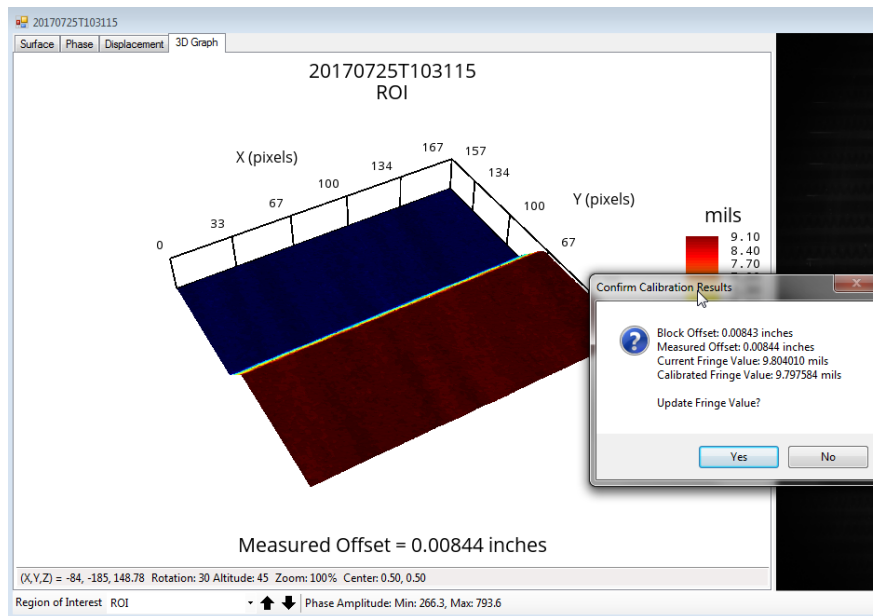

Figure 2.42 Fringe Value Result
3. Right click within the ROI and click **Acquire...** The calibration process is initiated and a result window pops up afterward (**Figure 2.42**), showing the user entered value, the measured value, the old Fringe Value, and the proposed new Fringe Value.